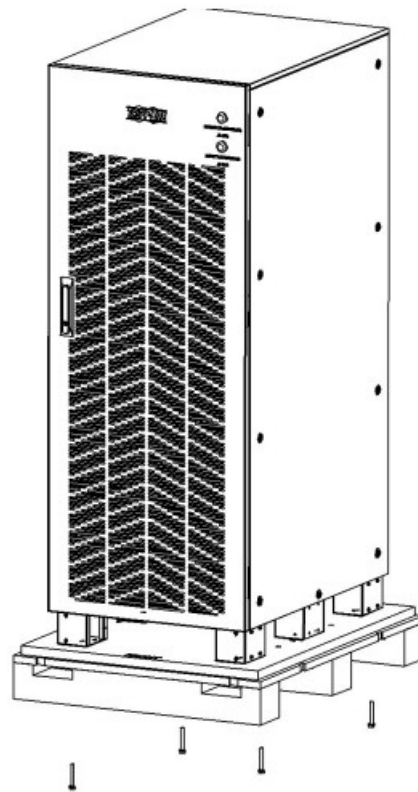

Figure 3-5
4. Remove the screws securing the cabinet to the pallet (Figure 3-5).